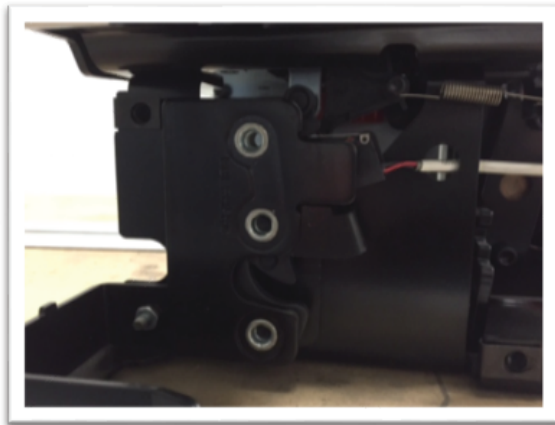
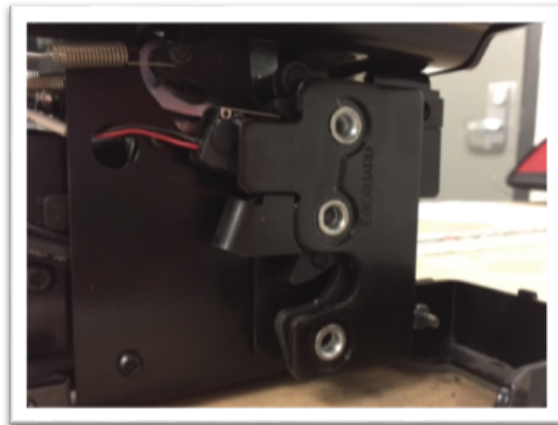

Figure 11:
Figure 12:
15. Inspect the trolley Eberhard latches and their fasteners. Latch and release the latches to make sure that they function properly (Figure 11 and Figure 12 on page 4).